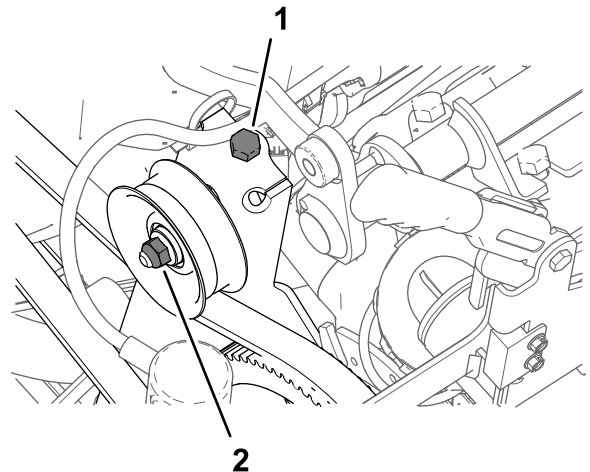

Figure 180
1. Loosen the nut for the idler-pulley shaft (Figure 180).
2. Rotate the belt-tension bolt to remove all tension from the sprayer-pump belt (Figure 180).